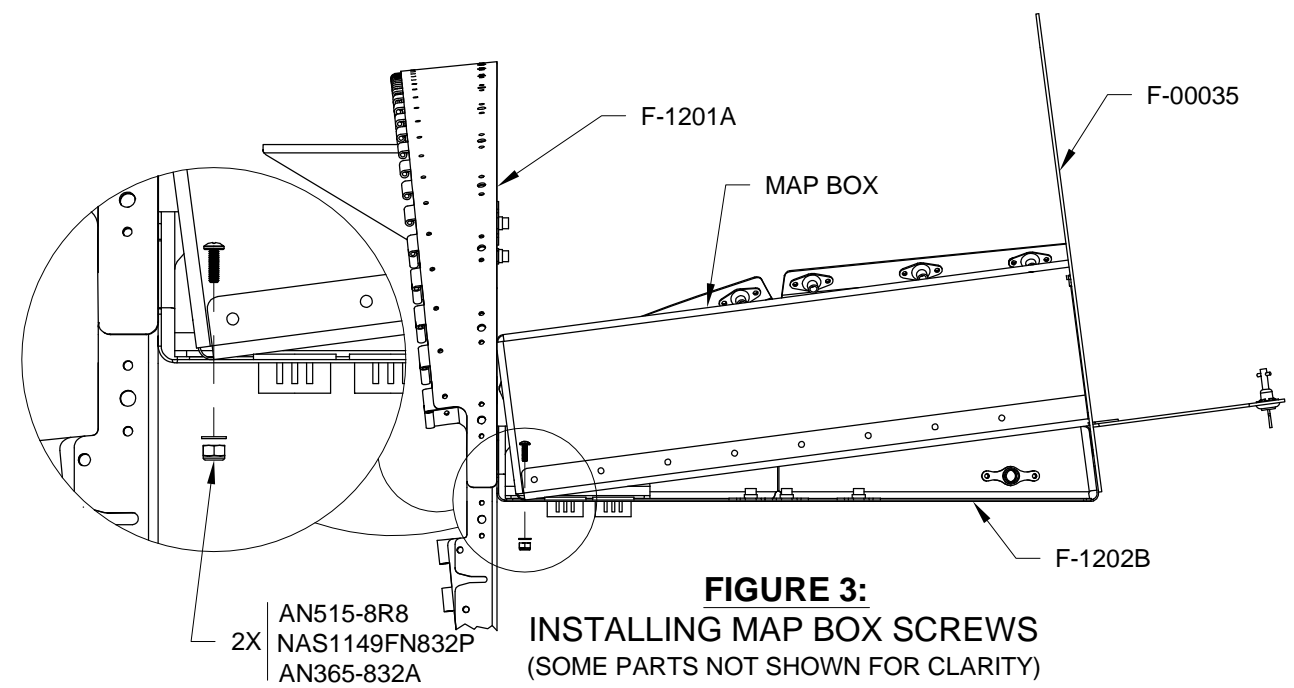

FIGURE 3: INSTALLING MAP BOX SCREWS
Step 4: Install the screws, washers and nuts to anchor the back of the Map Box Assembly as shown in Figure 3.